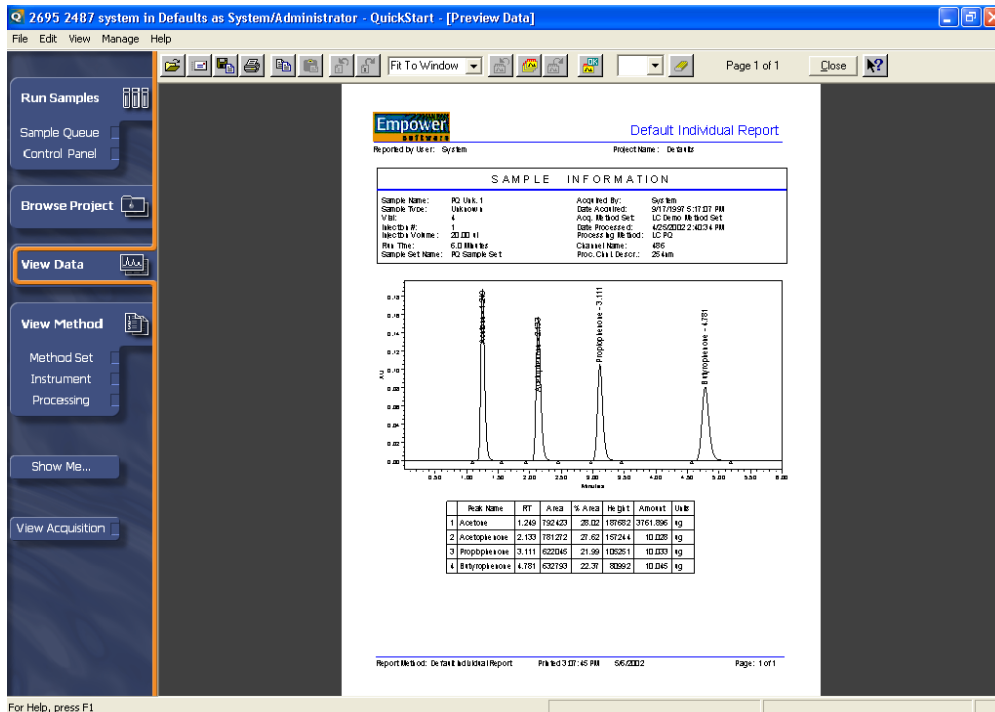

Figure 7-7 Report Publisher Preview Window
3. The report method formats the appearance of the report. Click **Use the following Report Method**, then select the desired report method from the list. Click **OK**. The Report Publisher Preview window appears displaying your chromatographic data in the specified report format (Figure 7-7).